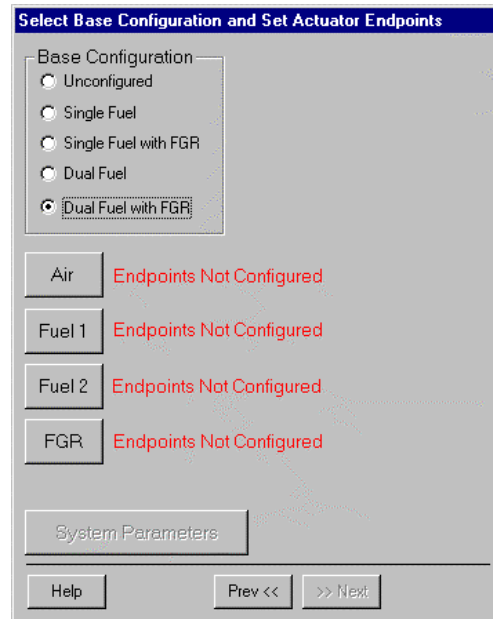

Fig. 7. Base Configuration for Dual Fuel with FGR.
- (1) Press a button to configure the actuator. (If you selected ‘Single Fuel’ or ‘Single Fuel with FGR’ in the Base Configuration, the Fuel 2 button is not displayed. If you selected ‘Single Fuel’ or ‘Dual Fuel’ in the Base Configuration, the FGR button is not displayed.) When you press a button, the *Set Actuator Endpoints* screen is displayed. When the actuator has been configured, the word “Configured” is displayed next to the appropriate button. See Fig. 7.